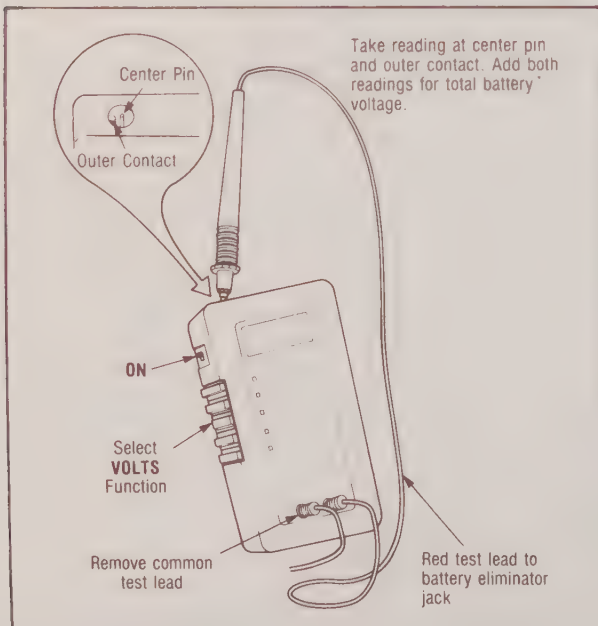

Fig. 18. Measuring Battery Voltage.
The LO BAT indication appears whenever battery voltage is below approximately 7.4 volts. Meter accuracy is retained down to 6.5 volts. If the LO BAT indication appears, be sure battery voltage exceeds 6.50 volts before making any measurements. This meter can measure its own battery voltage without removing the case by using the following procedure (refer to Fig. 18):
2. Measure the battery voltage as shown in Fig. 18. The center pin should read -4 to -7 volts and the outer contact should read 2.4 to 3.2 volts. A zero reading may indicate that fuse F1 is blown. If the minus sign is missing or is displayed continuously, A/D converter IC2 is probably defective.